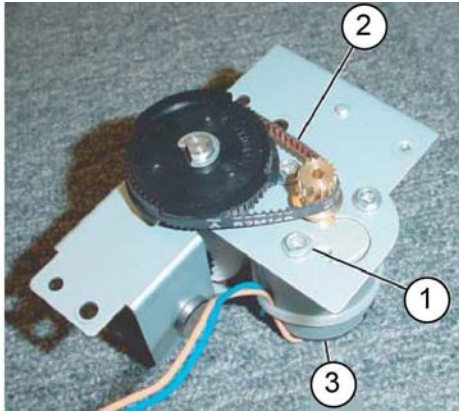

Figure 4 Stacker motor removal
8. Remove the stacker motor, Figure 4:
- a. Remove three crews (1).
- b. Remove the belt (2) from the pulley.
- c. Remove the stacker motor (3).